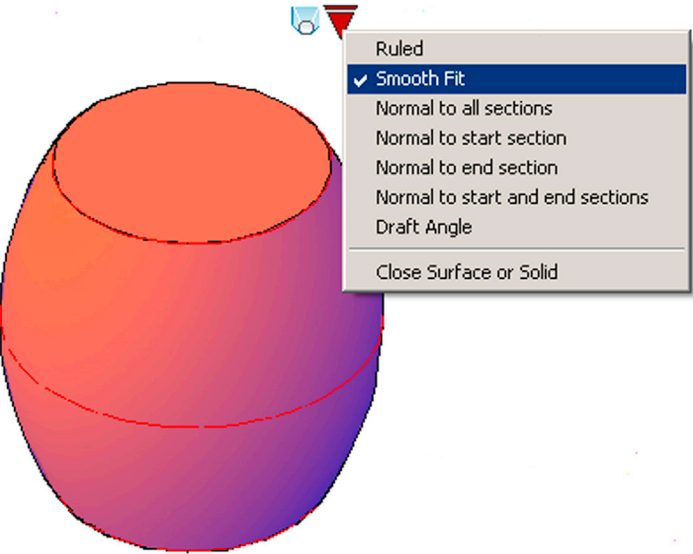

FIGURE 24.24 Loft settings menu.
Step 4. Press Enter. The loft is performed and the barrel is visible if you are in the shaded mode. You also see a prominent down arrow, which when pressed, reveals a menu to fine-tune the loft (Fig. 24.24). Experiment with the various choices to see the effect on the overall shape. In almost all cases, we want a smooth fit (the default), so after experimenting, restore that choice.